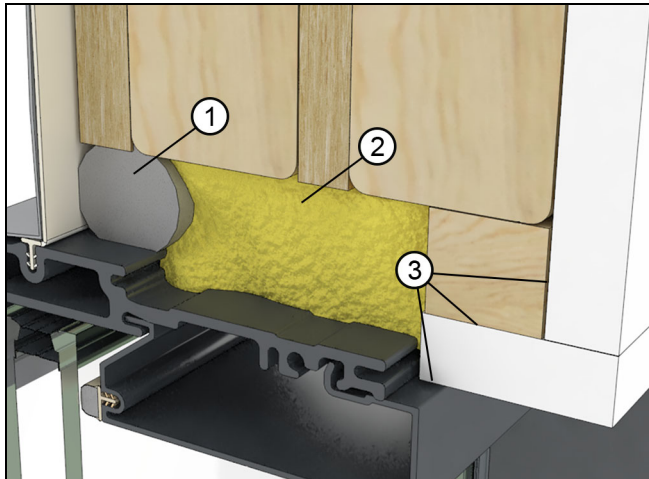

Figure 80
1. Apply insulation in the rough opening, against the backer rod installed earlier. See Figure 80.
2. Apply a continuous bead of sealant around the interior perimeter. Seal all joints where drywall returns to the window frame. See Figure 80.